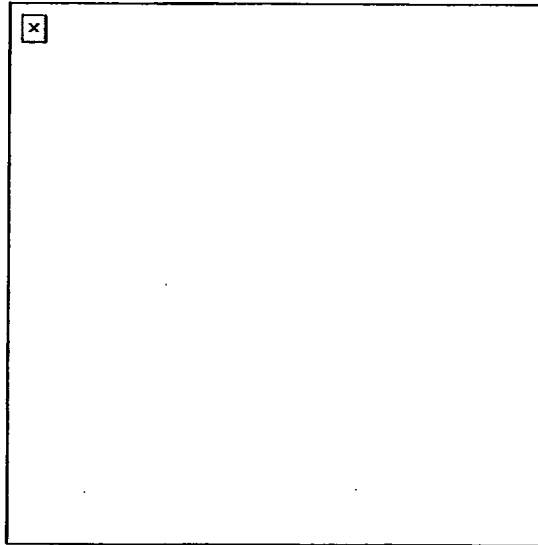

Figure 8. Removal of the feed slide assembly.
- e. Remove the feed slide assembly (Figure 8).